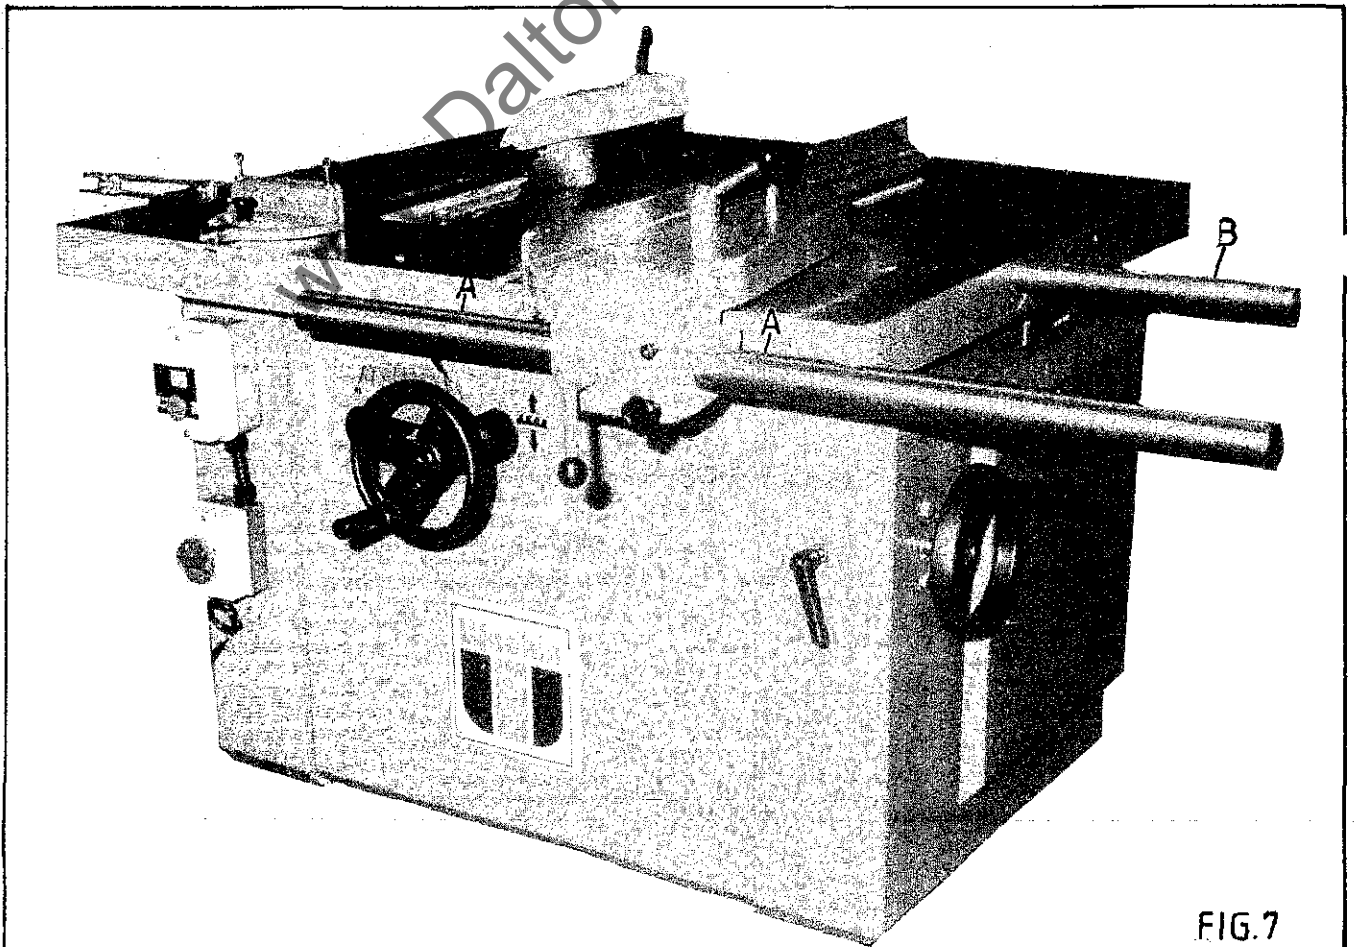

FIG. 7
- a) Locate stud "A" FIG.7 into holes in front of main table. Set fence bar parallel to table top and lock in position with nuts provided.